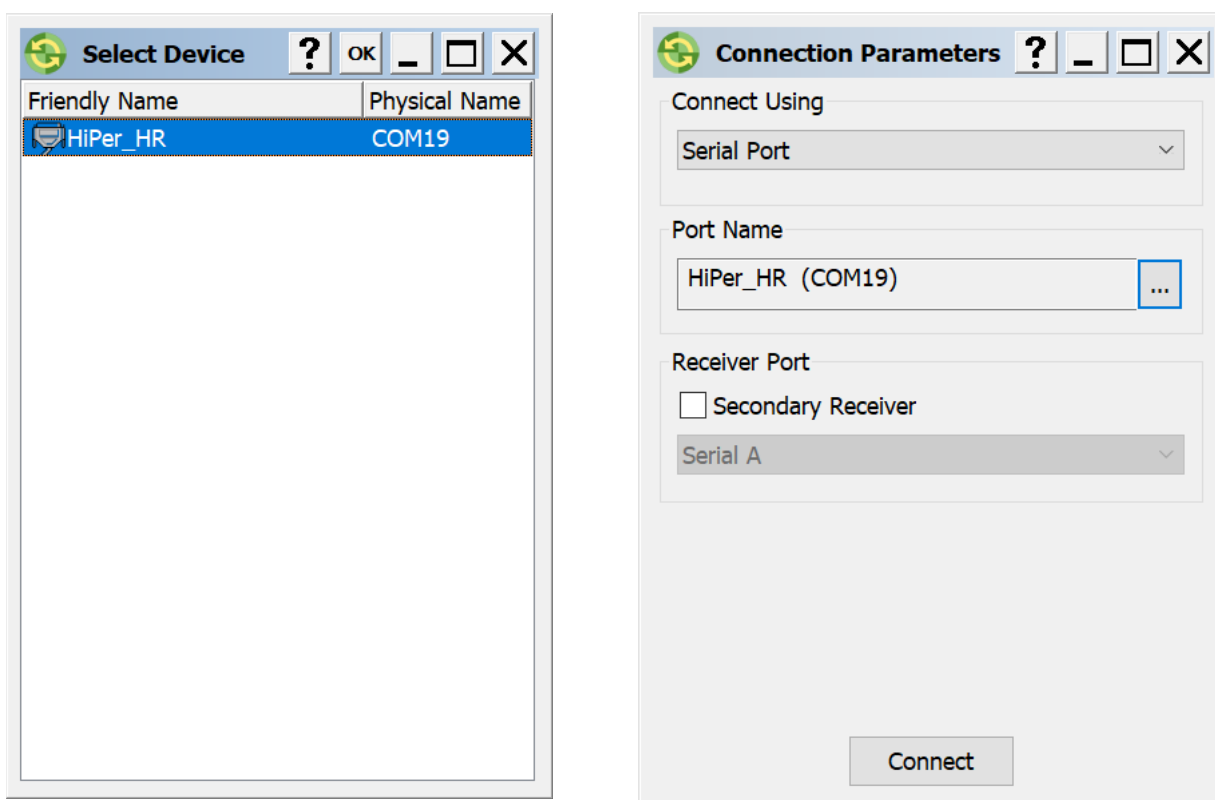

Figure 5-3: Select Device/Connection Parameters
6. Select **Device►Connect**. The **Connection Parameters** screen opens (Figure 5-3).
7. Select **Serial Port** from the **Connect Using** drop down list (Figure 5-3).
8. Select the  button. The **Select Device** screen opens (Figure 5-3).